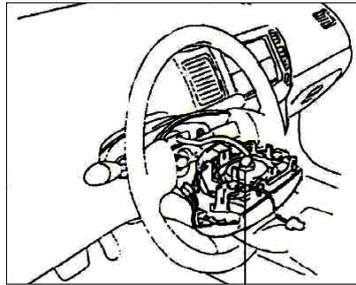

Fig. 2-27
3) Push out the horn button assembly from the steering wheel, as shown in Fig. 2-27.